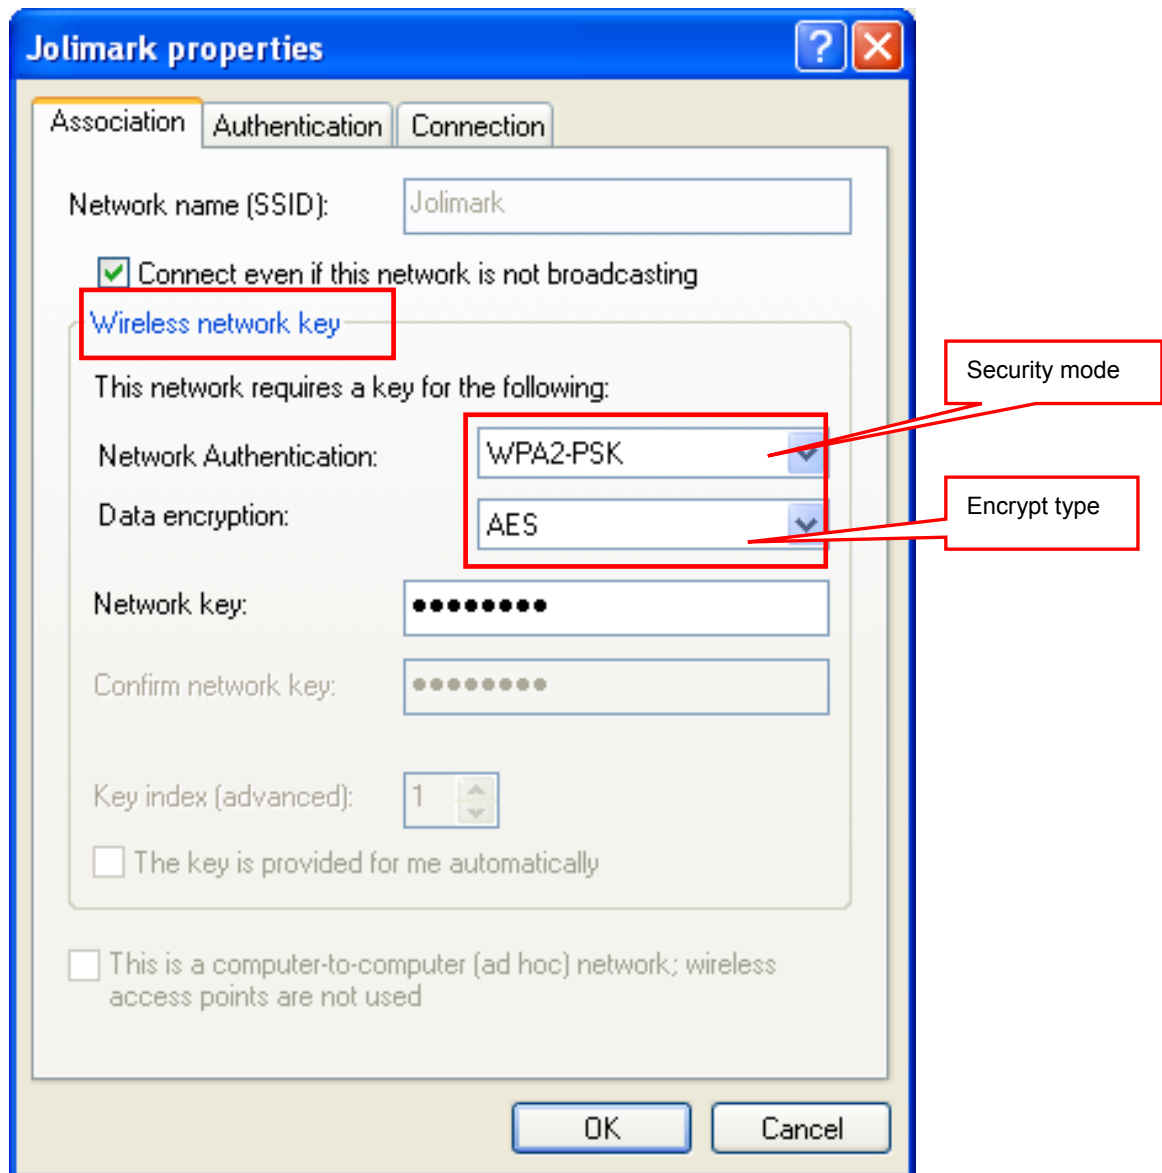

Figure 12
- ⑤ When the window of "Properties" pops up, find out the security mode and encrypt type in "Wireless network key" (as shown in Figure 12).